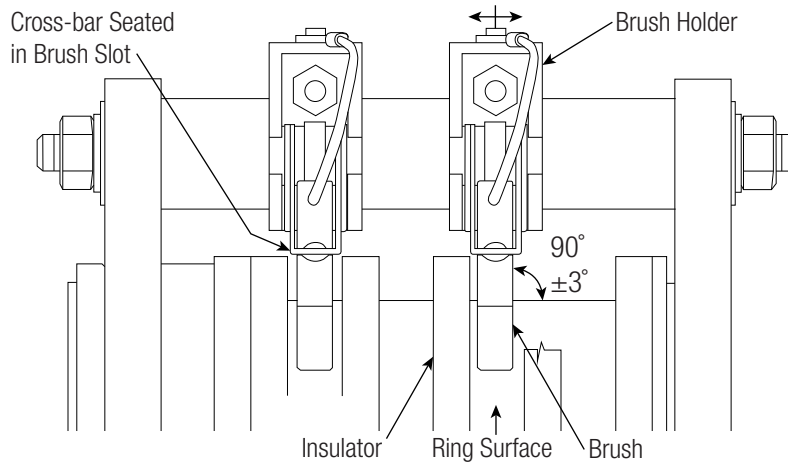

Figure: 4-3
4.2.1 Inspect brush holders for proper alignment. Locate brush holders so that the entire brush contact surface rides squarely on the ring with the brush moving freely in the brush holder. Position brush holders so the brush makes contact with the middle of the conductor and is not offset. **See Figure: 4-3**
4.4.1 The brush spring cross-bar must be seated in the brush slot. **See Figure: 4-3**